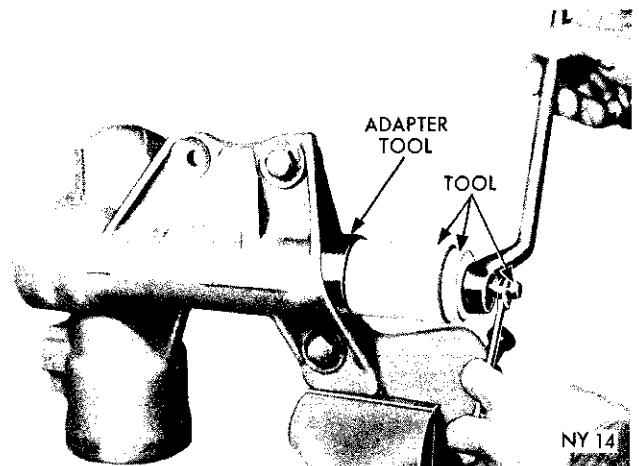

Fig. 14—Removing Housing Lower Bearing
(40) If necessary to remove the housing bearings, use puller, Tool C-3332 with adapter SP-3062 (Fig. 14) as follows: